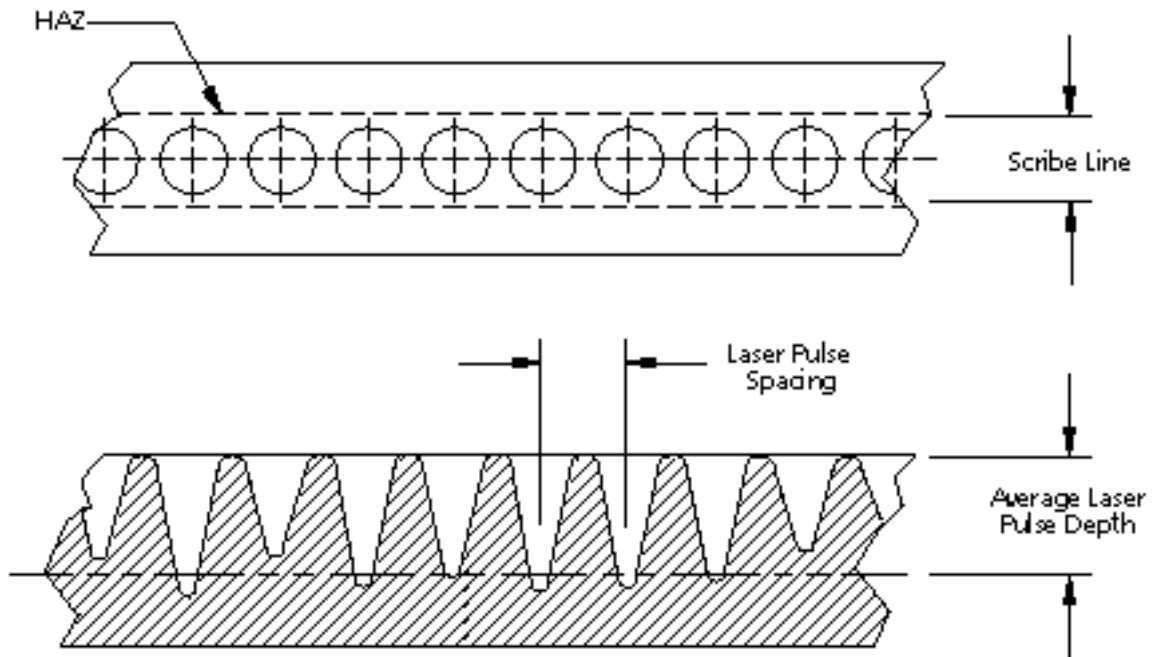

Fig. 2. Typical Laser Scribed Line: (a) Top View of Laser Scribed Line; (b) Cross Section of Laser Scribed Line
20. Pulse Spacing: Separation distance between two adjacent laser pulses measured from centerline to centerline (reference Figure 2).
21. Scribing: To laser machine a line by perforating the material's surface. Separation of the material may then be done along the perforated line, thus achieving the desired part dimensions (reference Figure 2).